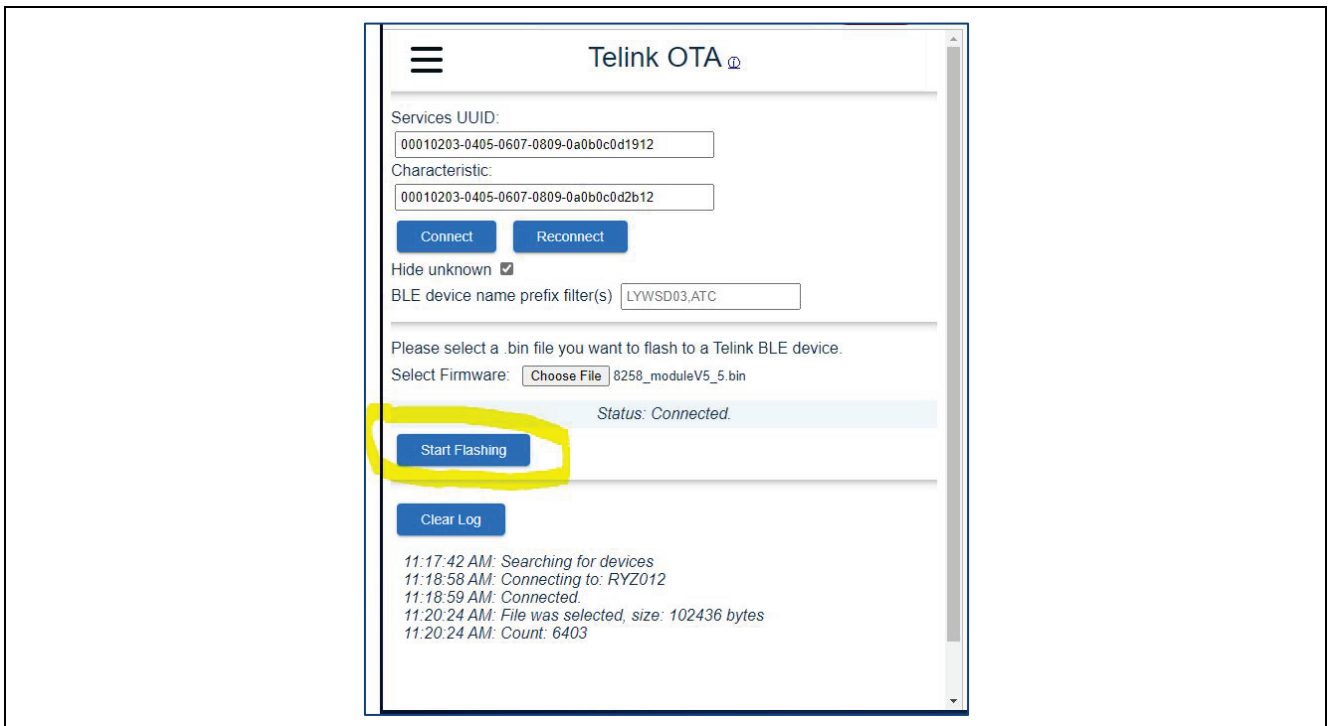

Figure 35. Windows PC Update – Start Firmware Update
- Start the firmware update with “**Start Flashing**”. See Figure 35.